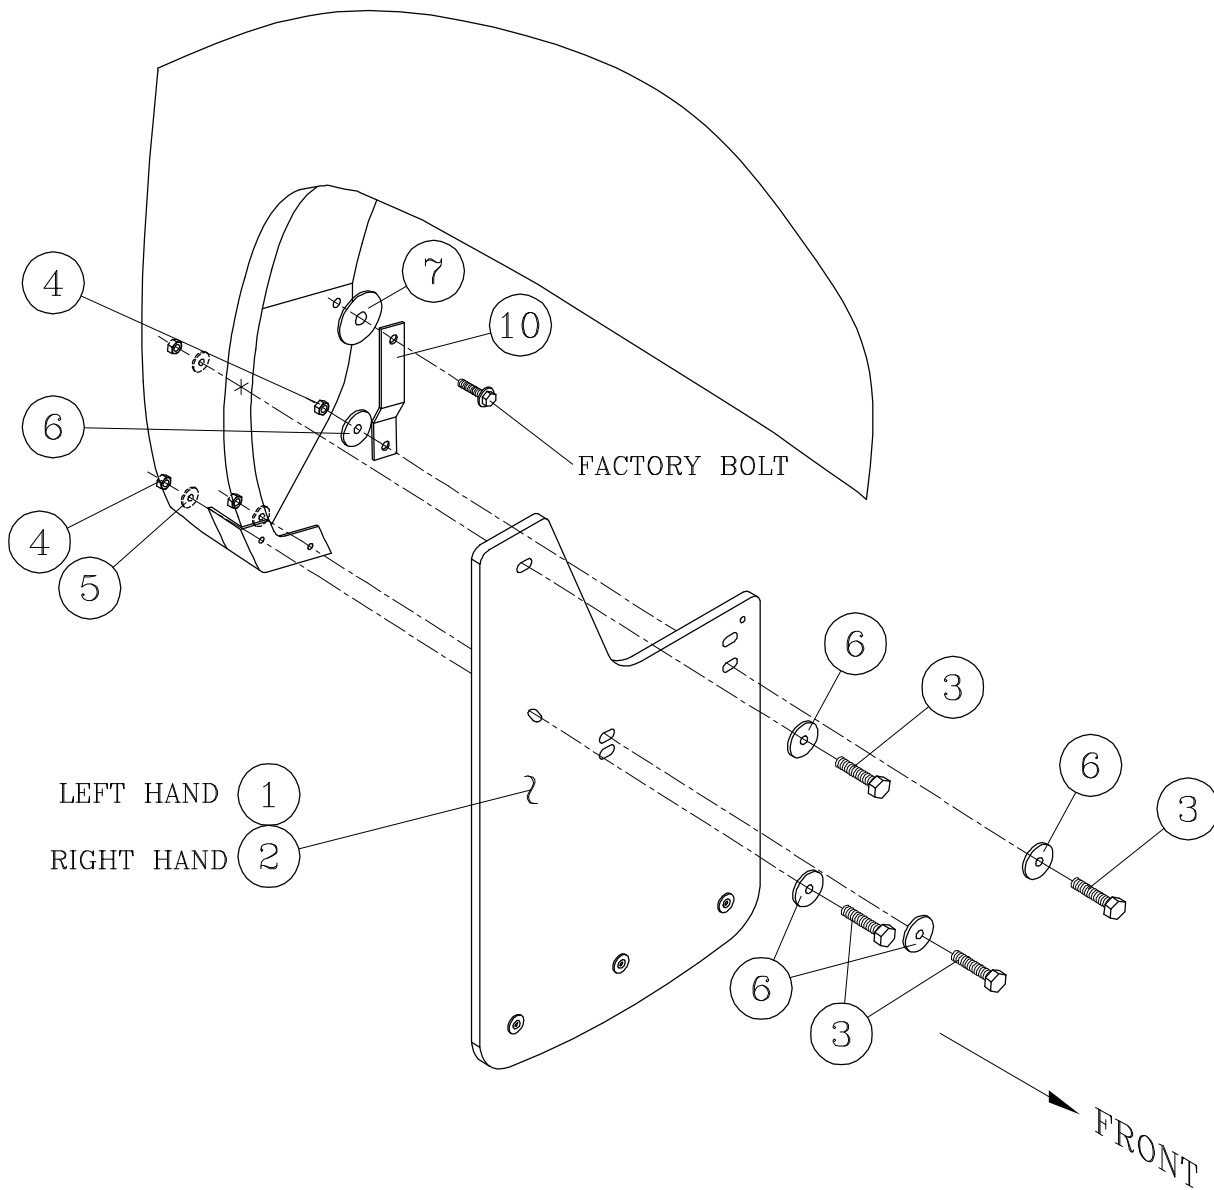

FIG. 2
MOUNTING 251520 / 251523 MUD GUARDS ON THE REAR OF THE VEHICLE. (SEE FIG. 2)
11. REMOVE THE FACTORY SPLASH GUARD BOLT AND INSTALL A .360" X 1.5" NYLON WASHER (ITEM #7) AND THE SUPPORT BRACE (ITEM #10) AS SHOWN IN FIGURE 2.
12. USING TWO 1/4-20 X 1.5" ALUMINUM HEX HEAD SCREWS (ITEM #3), TWO 1/4" X 1" BLACK FENDER WASHERS (ITEM #6), FOUR 1/4" ALUMINUM WASHERS (ITEM #5), AND TWO 1/4-20 ALUMINUM LOCK NUTS (ITEM #4) ATTACH THE MUD GUARD TO THE FENDER AS SHOWN IN FIGURE 2.
13. USING A 1/4-20 X 1.5" ALUMINUM HEX HEAD SCREW (ITEM #3), A 1/4" X 1" BLACK FENDER WASHER (ITEM #6), TWO 1/4" ALUMINUM WASHERS (ITEM #5), AND A 1/4-20 ALUMINUM LOCK NUT (ITEM #4) ATTACH THE MUD GUARD TO THE SUPPORT BRACE AS SHOWN IN FIGURE 2.
15. USING A 1/4-20 X 1.5" ALUMINUM HEX HEAD SCREW (ITEM #3), TWO 1/4" ALUMINUM WASHERS (ITEM #5), A 1/4"-1" BLACK FENDER WASHER (ITEM #6), AND A 1/4-20 ALUMINUM LOCK NUT, ATTACH THE MUD GUARD TO THE FENDER AS SHOWN IN FIGURE 2.